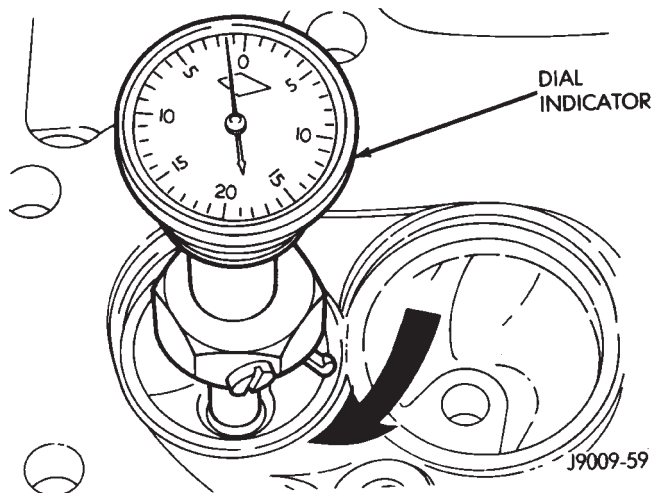

Fig. 63 Measurement of Valve Seat Runout
(1) Install a pilot of the correct size in the valve guide bore. Reface the valve seat to the specified angle with a good dressing stone. Remove only enough metal to provide a smooth finish.
(2) Use tapered stones to obtain the specified seat width when required.
(3) Control valve seat runout to a maximum of 0.0635 mm (0.0025 in.) (Fig. 63).